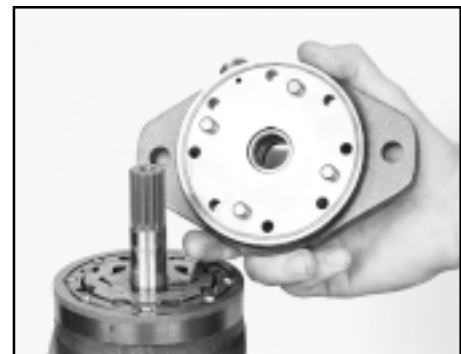

Figure A19
22. Install a square ring seal (3) into the groove of the front bearing housing/flange (10). Place the front bearing housing w/ square ring over the shaft and onto the locating ring. Be sure to align the 4 dowels with the short dowels inside the locating ring and to align the bolt holes with the holes in the locating ring. (bolt hole pattern will only match one way.) SEE FIGURE A19